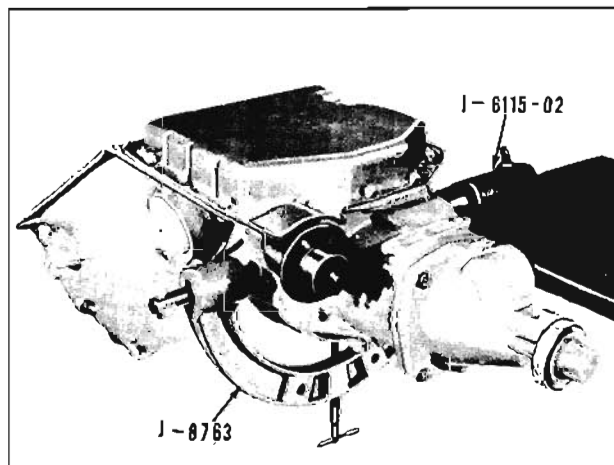

Fig. 6-253 Transmission Holding Tool J-21654
Place transmission on a CLEAN work bench and use CLEAN tools during disassembly. Provide CLEAN storage space for parts and units removed from transmission. An excellent working arrangement is provided by assembling the transmission to Holding Fixture J-8763. (Fig. 6-253)
2. Place transmission in Fixture J-8763. (Fig. 6-253)